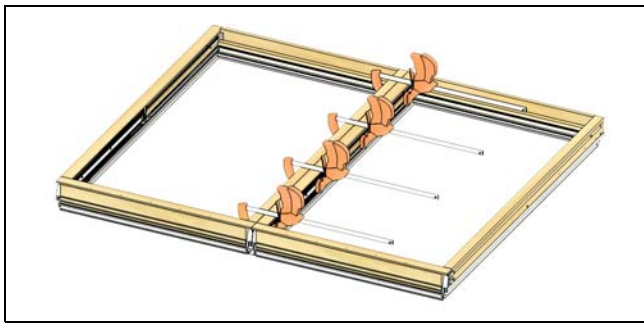

Figure 3
4. Slide units together and align. Once aligned, lightly clamp units so the jamb liners are flush and the units are even and flush at the sill. See Figure 3.